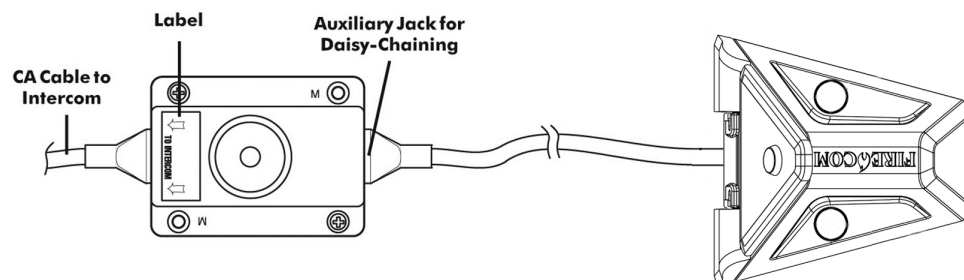

Figure 6
The Headset Module (HM-10) provides the interface between the Digital Intercom and a wired Headset, and is designed for use inside the apparatus where it is protected from the elements. The HM-10 also has a second connection for Daisy-Chaining (Figure 6).
- When connecting the two headset modules via a daisy-chain, allow clearance on the side opposite the HM-10 label for the CA cable to be routed to the second headset module (Figure 6).
- The Headset Modules in a Daisy-Chain must be connected in a **SPECIFIC** manner (Figure 6).